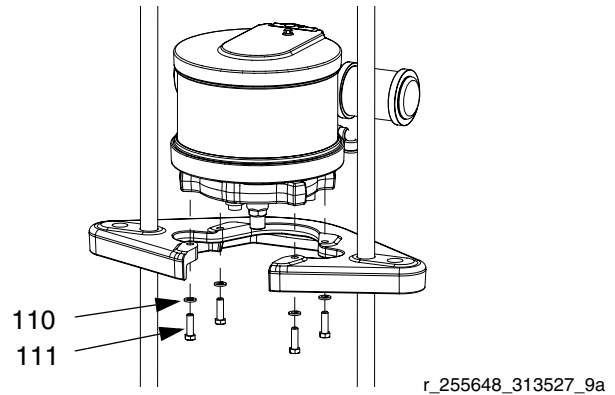

FIG. 24: NXT 200-1800 with 55 Gallon Platen
- b. For NXT 200-1800 with 55 gallon platen (D200 3 in. and D200s 6.5 in. supply units): Remove screws (111) and washers (110) securing motor to mounting plate. See FIG. 24.
2. For *NXT200-1800*: Attach motor to mounting bracket with screws (111) and washers (110). See FIG. 24 on page 26.
- b. Connect air hose to motor. If using a remote DataTrak, connect electrical connections to the air motor. See FIG. 24 on page 26.
3. Connect air hose to motor. If using a remote Data-Trak, connect electrical connections to the air motor. See FIG. 24 on page 26.